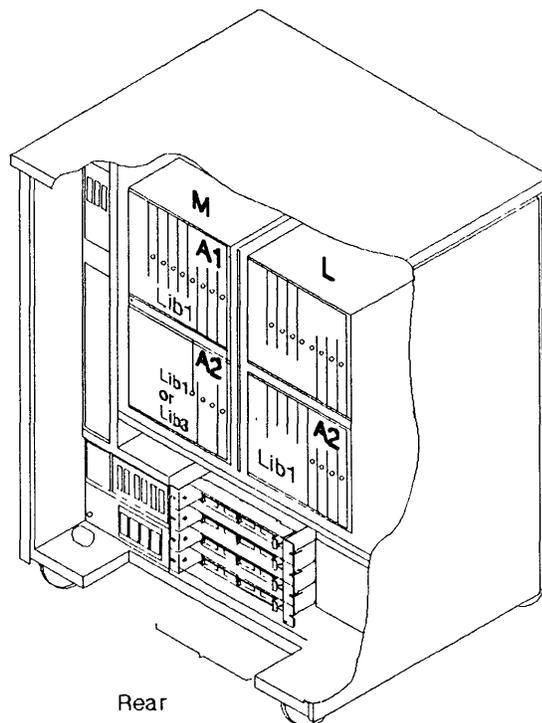

Figure 4-107. LIC Board Type 1 Locations
5. Locate the board to exchange. Refer to Figure 4-107.